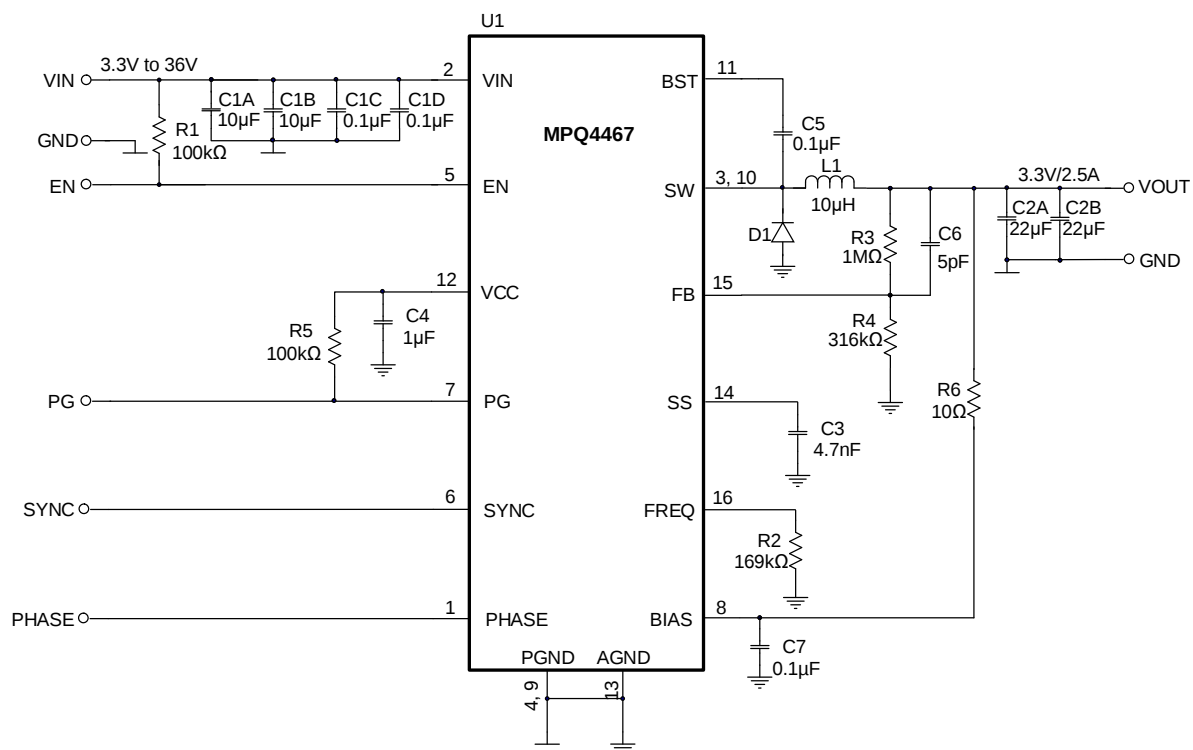

Figure 9: $V_{OUT} = 3.3V$, $f_{SW} = 500kHz$
- 7) The recommended PCB layout is based on Figure 9.